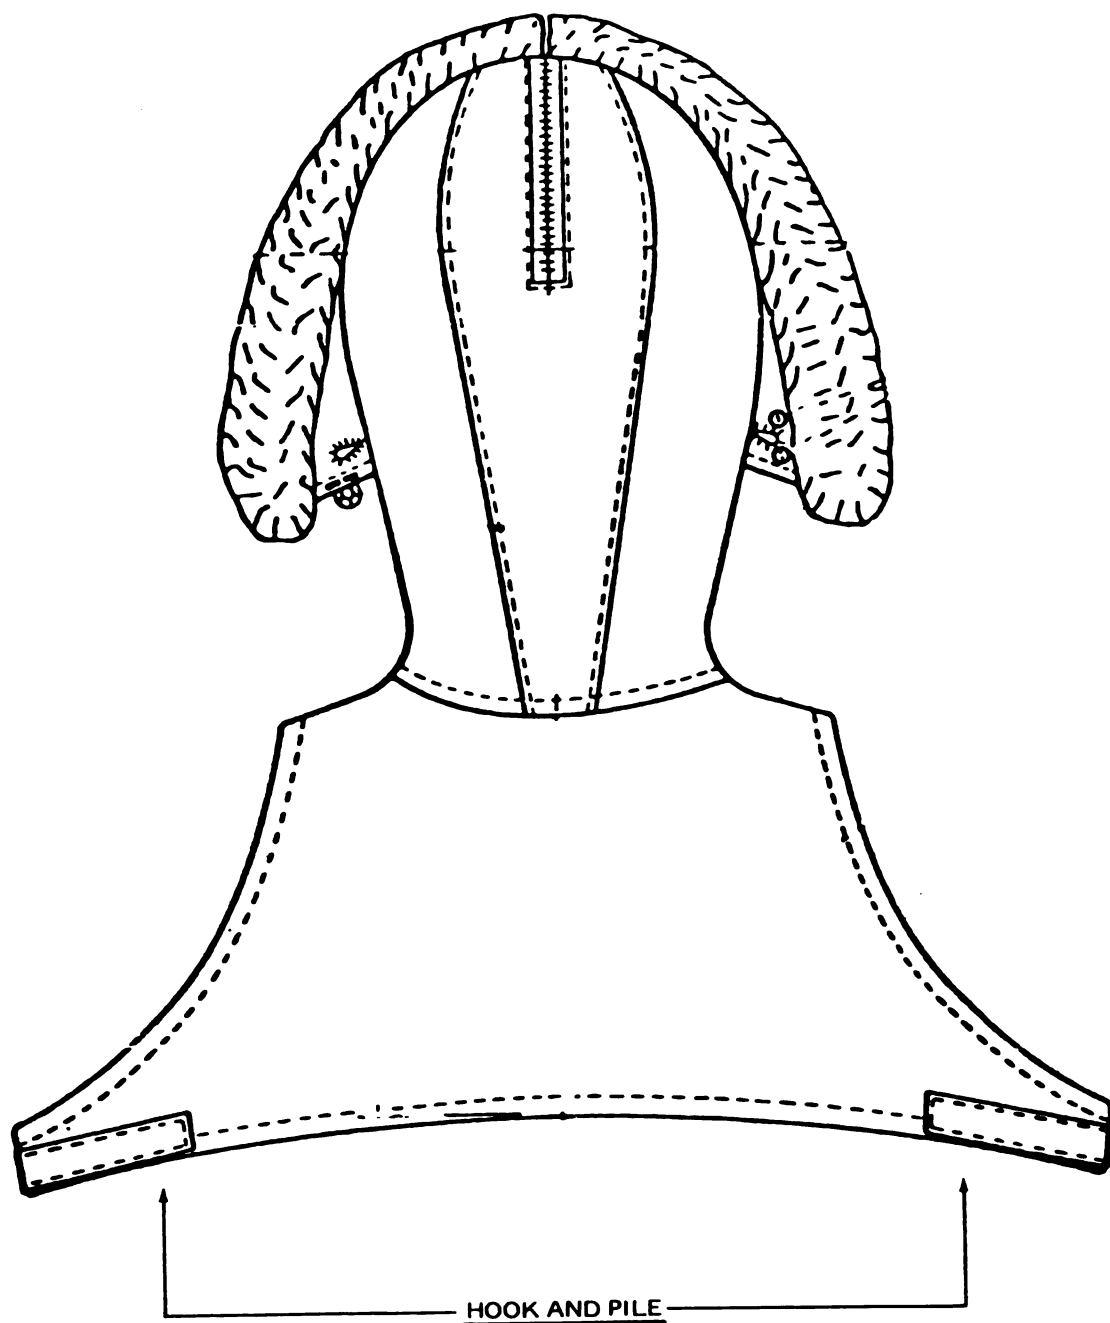

Figure 4-2. Hood, Back
b. Take the fastener tape hook and pile off at the underarm donning location. (See figure 4-2, back view.) Retain the tape for front closure.